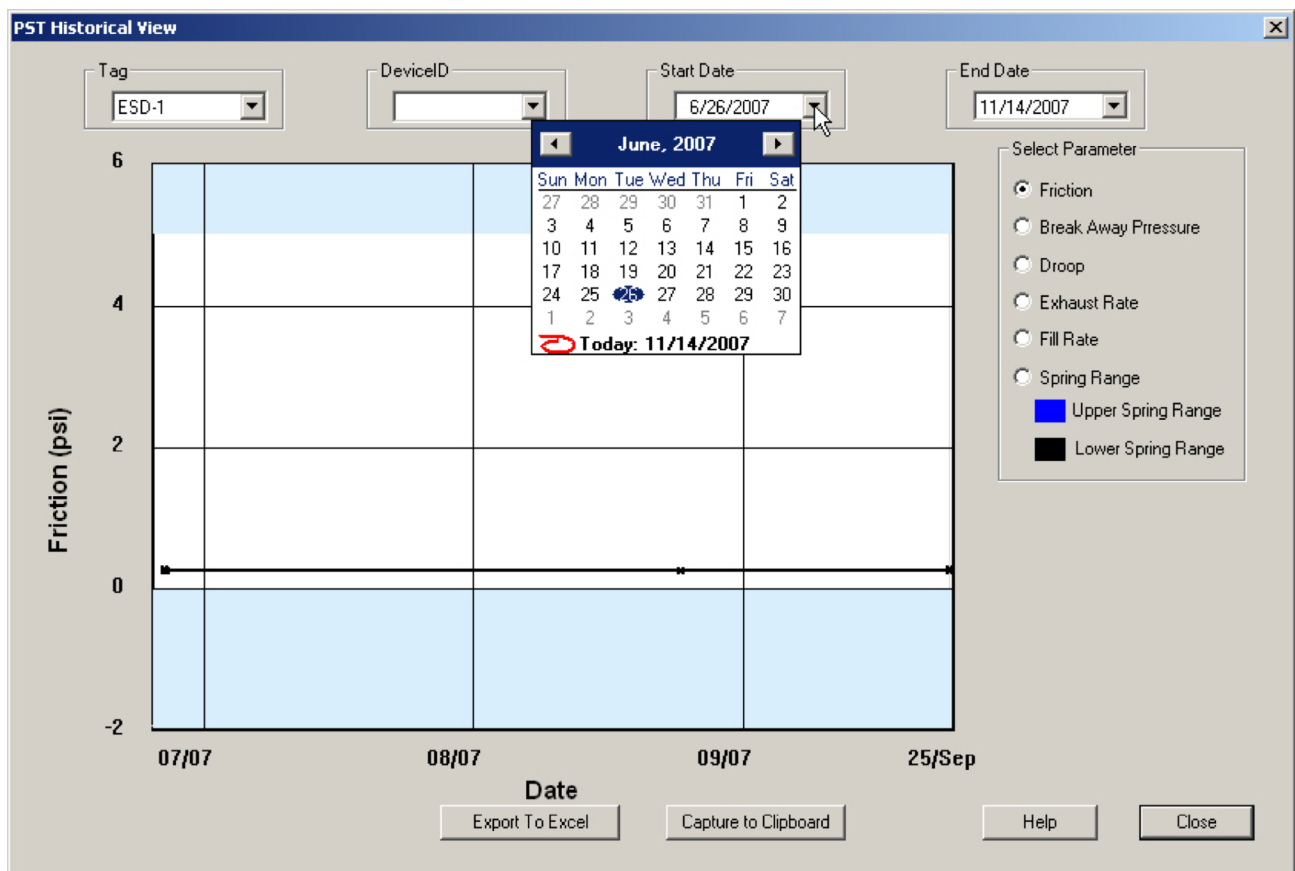

Figure 61 - Selecting the Historical View Start Date
2. Select **Historical View** and the *PST Historical View* window appears (*Figure 61*).
- a. Click in the drop down, located at the right of PST schedule date field and access the date calendar (*Figure 61*).